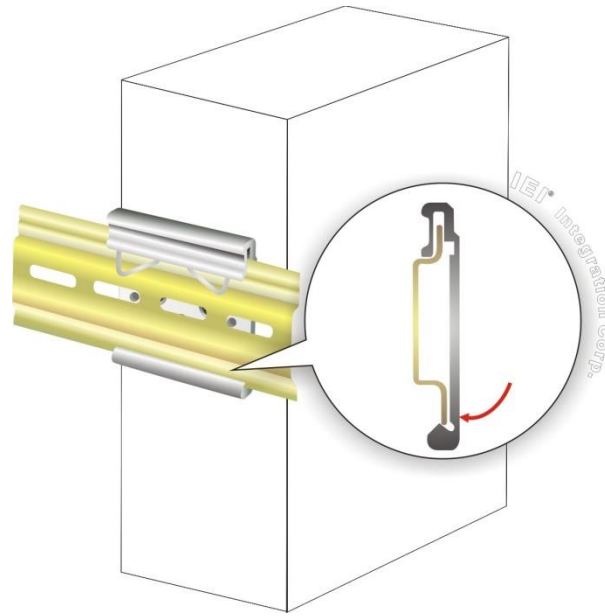

Figure 3-14: Mounting the System
Step 3: Push the system toward the DIN rail until the mounting bracket clips into place firmly (**Figure 3-14**)